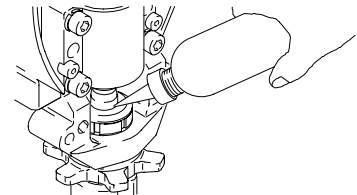

Fig. 22 7677B
- Fig. 22. Fill packing nut with Graco TSL, through one of the slits, until fluid flows onto the top of seal.